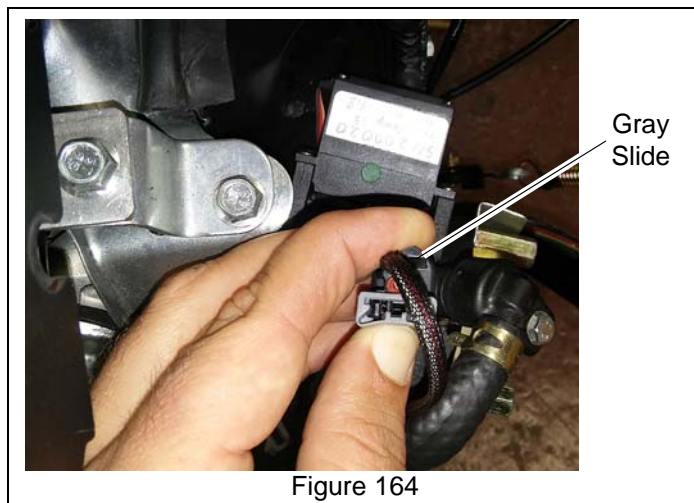

Figure 164
- a. Move gray slide upward until it stops. Gently compress gray slide and remove connector. See Figure 164.